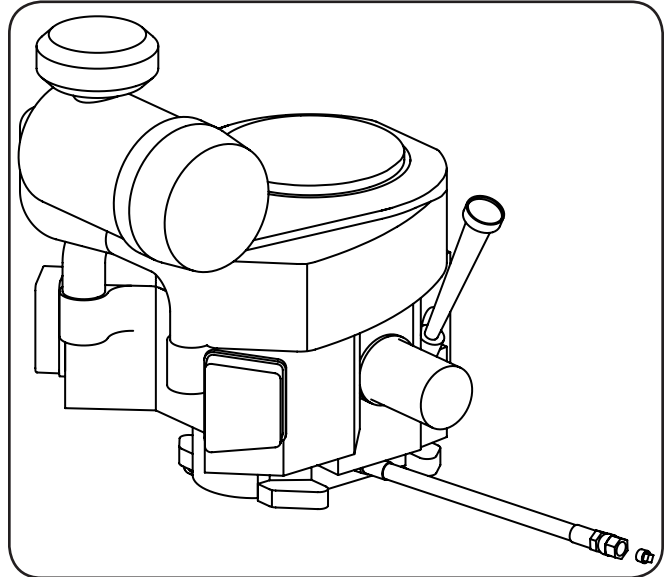

Figure 6-1
2. Locate the oil drain hose on the engine. See Figure 6-1.
5. While holding the free end of the oil drain hose over the oil collection container, unscrew the square-head hose plug from the end of the hose. See Figure 6-1. Drain the engine oil into the collection container.